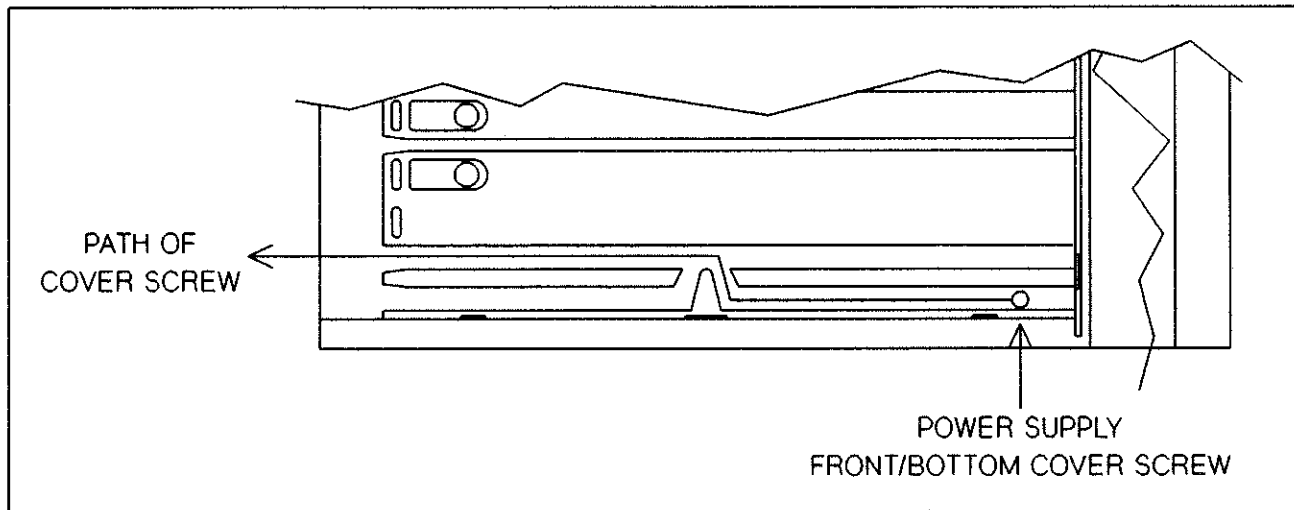

Figure 4-2 Power Supply Removal Path
8. Refer to Figure 4-2 to determine how the power supply module is to be removed. The figure shows the path of the power supply module's front cover screw located at the bottom of the module. Carefully study the path before removing the module.